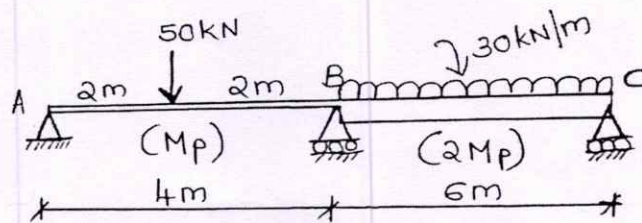

Fig. 6
- 7 a) A semicircular girder is fixed at both ends. It is subjected to a udl over its entire span. Determine the expression for the moment at mid-span. Also determine the expression for bending moment, shear force and torsional moment at any point in the beam. (15)
- b) Which are the forces developed at a section in a curved beam? (5)
- 8 a) State the major assumptions in plastic theory. (6)
- b) Define (a) Plastic hinge (b) Plastic moment capacity (c) Shape factor (6)
- c) Derive the shape factor for a rectangular section of depth 'd' and width 'b'. (8)
- 9 a) Explain the different methods for plastic analysis. (6)
- b) Calculate the plastic moment capacity required for the continuous beam with working loads, as shown in Fig. 6. Take load factor=1.5. (14)